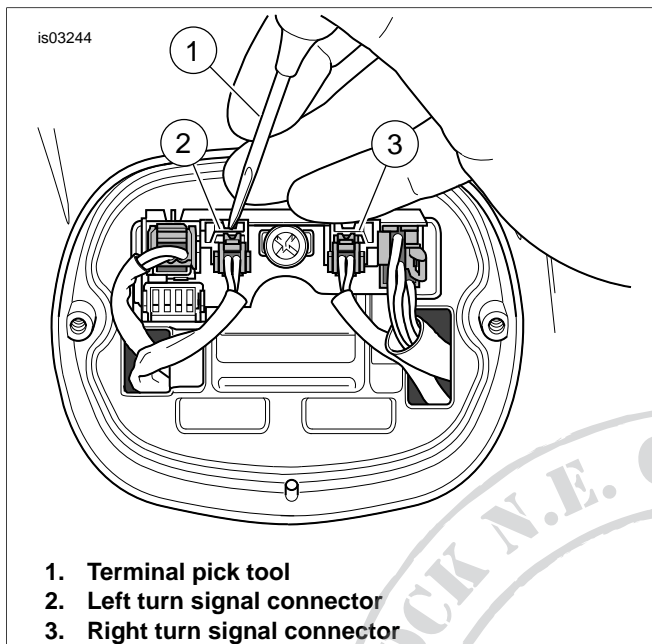

Figure 2. Turn Signal Connectors
5. See Figure 2. Remove the tail lens from the tail light base. Remove the terminals (2) and (3) from the rear tail light base and push the terminals through the holes and inside the fender.